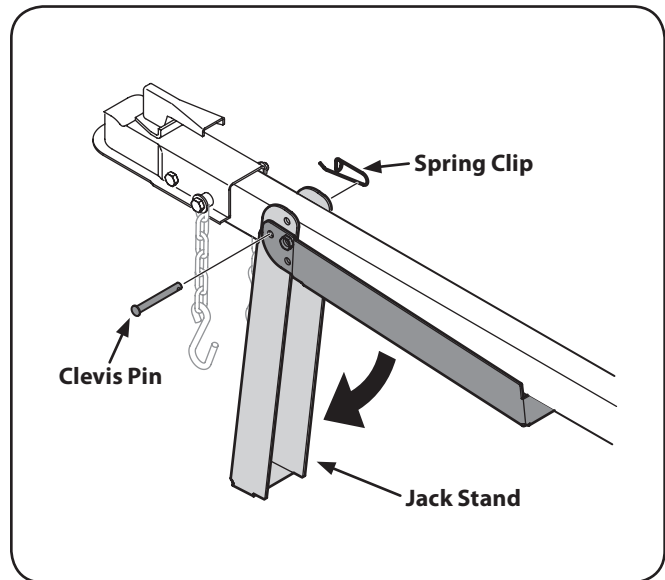

Figure 3-1
7. Remove the spring clip and clevis pin from the jack stand on the tongue and then pivot the jack stand towards the ground into the operating position. See Fig. 3-1.
8. Secure the jack stand in position with the clevis pin and spring clip. See Fig. 3-1.